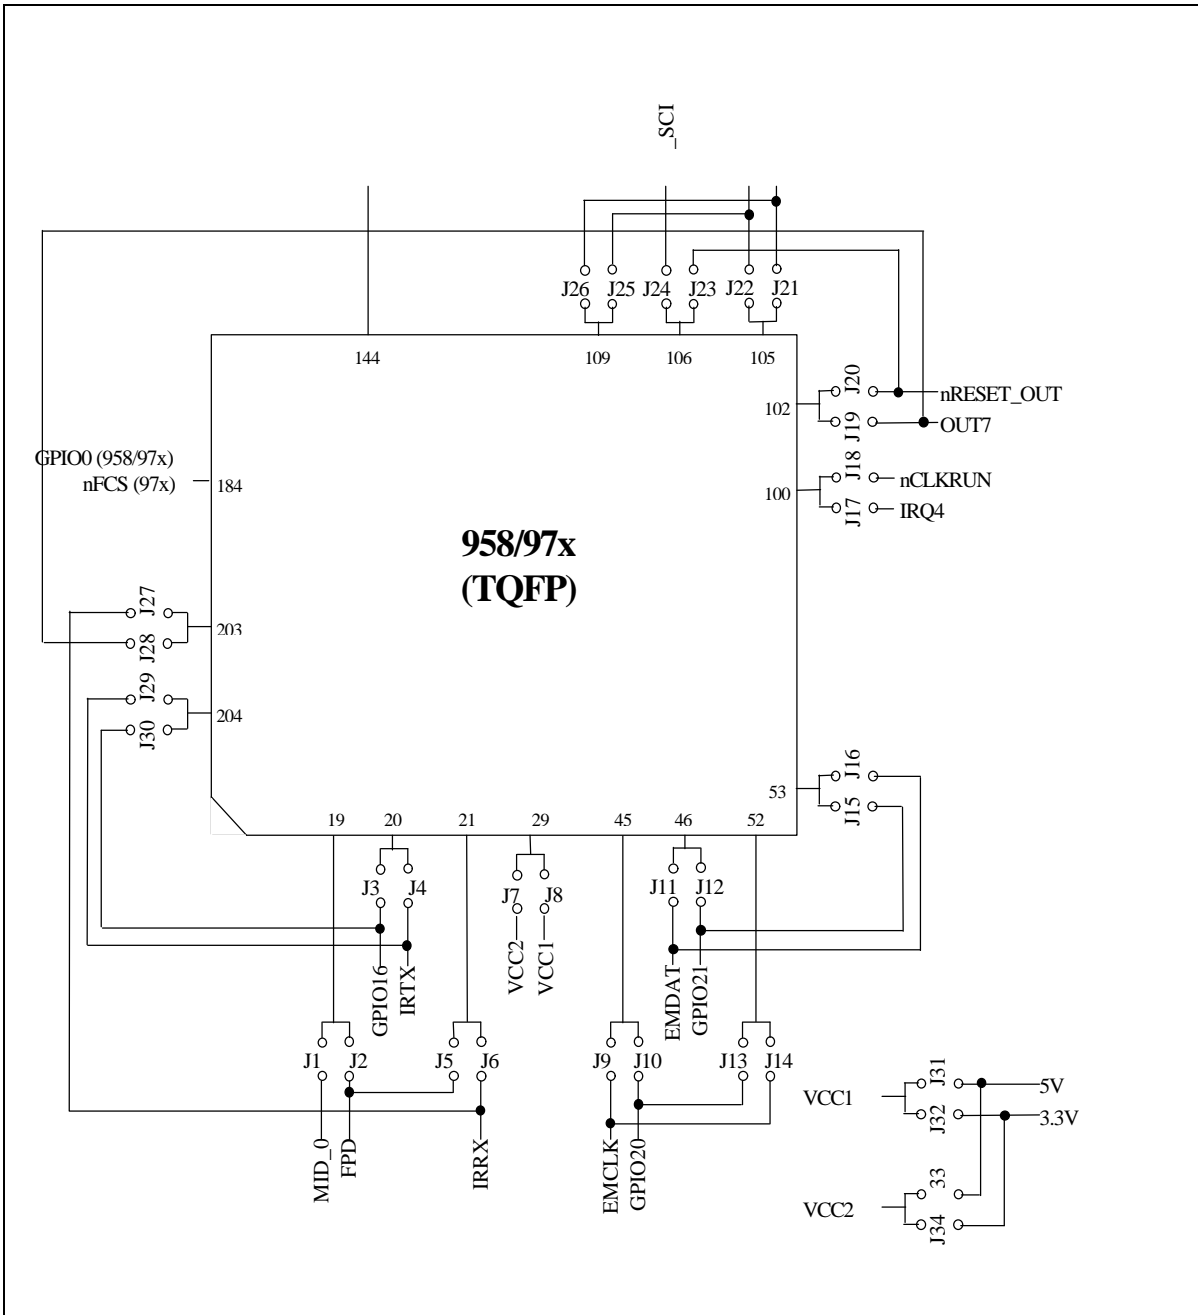

FIGURE 1 - 958/97x DUAL FOOTPRINT
- The effects of these changes on the pin configurations of both the FDC37N972 and the FDC37N958FR are summarized below in Table 1. Figure 1 illustrates an arrangement of jumpers that can be used to implement a dual footprint configuration. Jumper programming for Figure 1 is described in Table 1. The pin numbers in Table 1 are for TQFP packages, only.
NOTE 1: Jumpers listed in Table 1 refer to Figure 1. The jumpers per pin are mutually exclusive and depend on the selected device. To enable a pin function, short the jumper with a 0 ohm resistor.